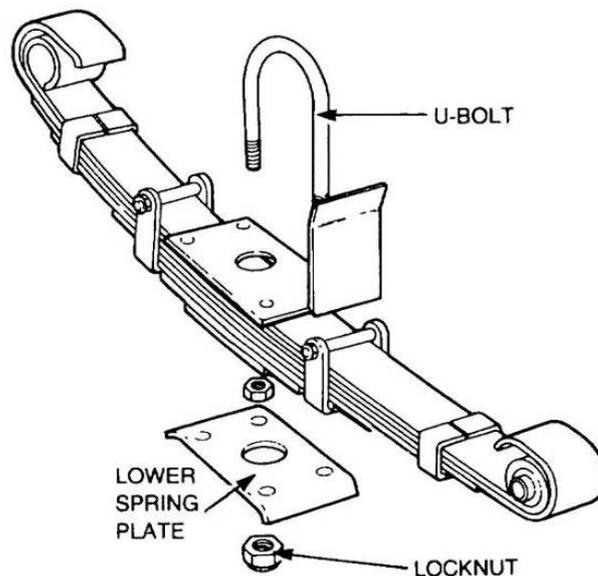

Figure 152 Removal of the U-Bolt and Retaining Plate
- h. To assist with removal of the spring, support the spring with a suitable trolley-jack. Remove the four locknuts from the U-bolts (Figure 152). Discard the locknuts.